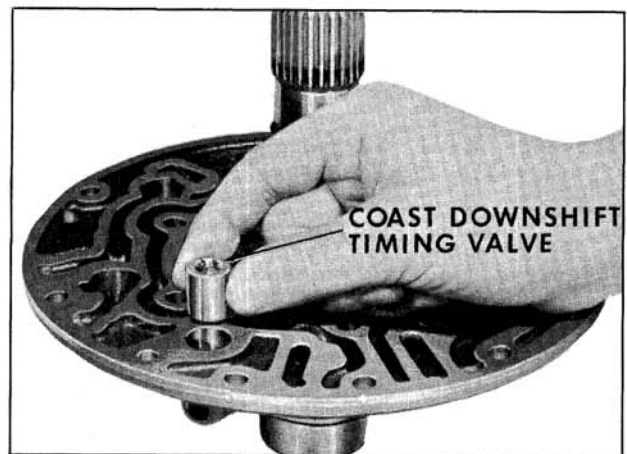

Fig. 6-425 Installing Coast Downshift Timing Valve
7. Install coast downshift timing valve "button end" up in cover. (Fig. 6-425)